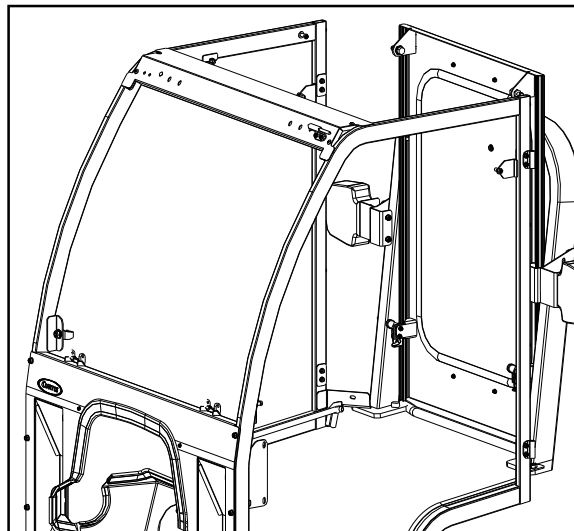

Fig. 7.1 (Rear Panel Installation)
7.1 Set the hard rear panel into position in front of the ROPS tubing and lean it backwards at the top so it rests in place temporarily. See Fig. 7.1